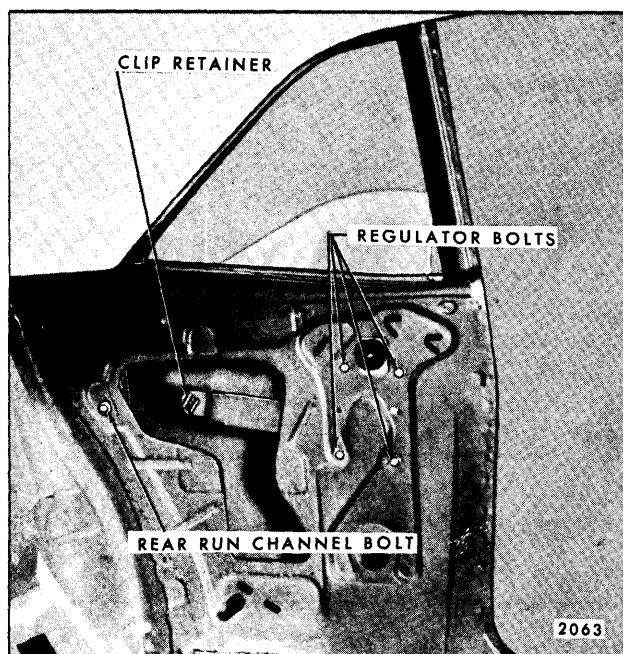

Fig. 7-42—Rear Quarter Hardware Attachment - "A, B, &amp; X" Closed Styles
4. Remove regulator attaching bolts. Figure 7-42 is typical of closed style regulator attachment.